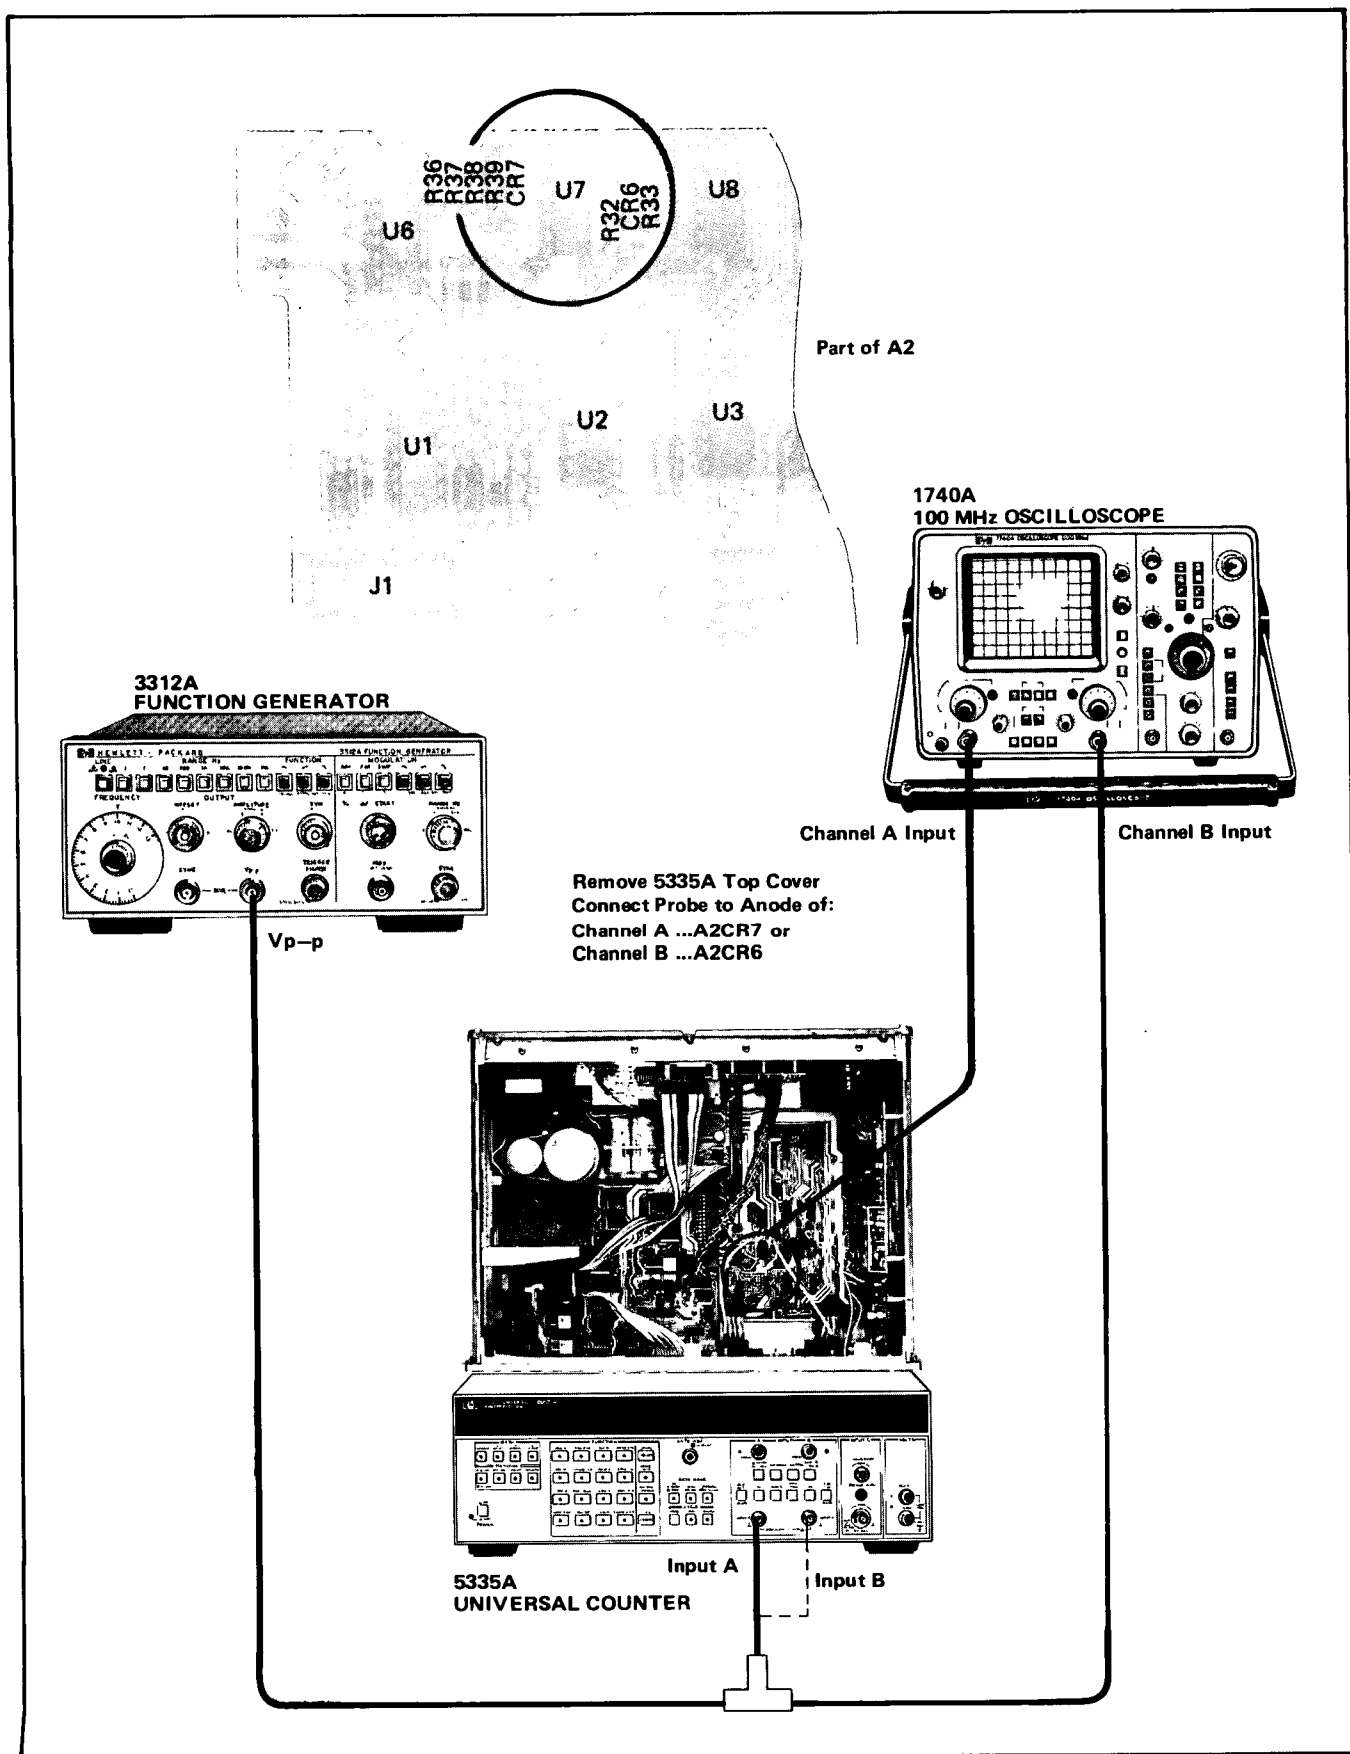

Figure 5-1. Input Amplifier Adjustment Setup.
- a. Remove the 5335A top cover, and locate variable resistors R37, R47, R88, and R96 on the A3 Input Amplifier Assembly (05335-60003). Refer to Assembly Adjustment Locator in *Figure 5-1*, and component locators in Section VIII.
- d. Connect the test equipment as shown in *Figure 5-1*; for the Channel A adjustment, connect the oscilloscope A channel probe to the anode of A2CR7.